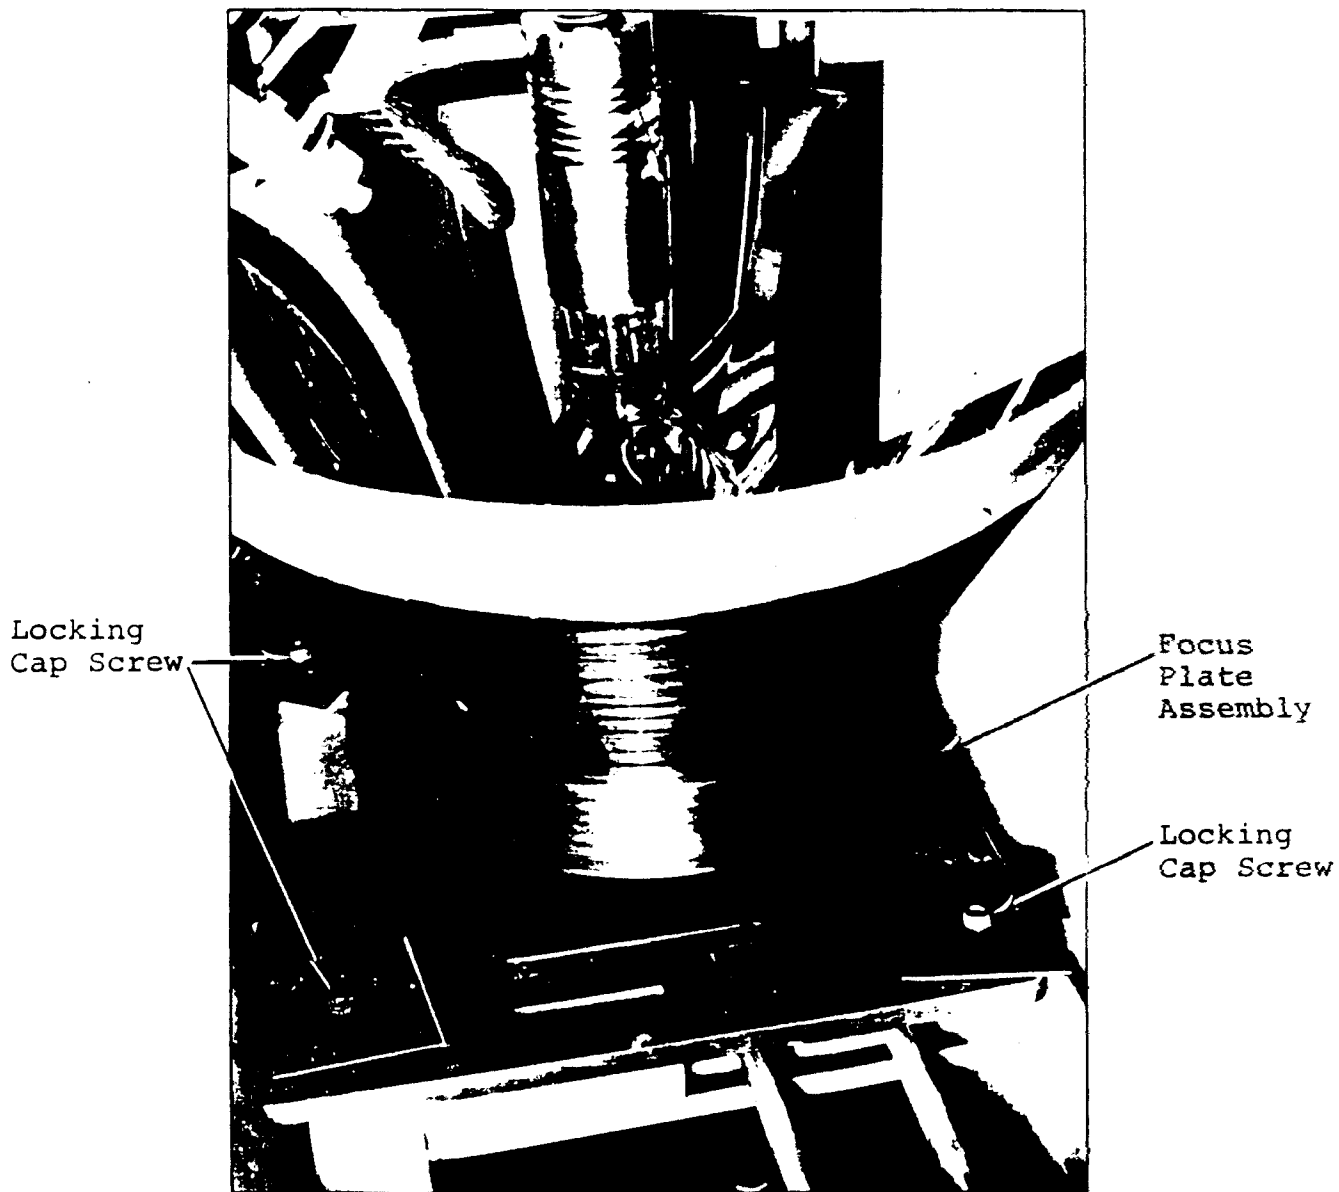

FIGURE 4-12
The focus plate assembly contains the reflector and focus mechanism. The entire assembly is adjustable in the horizontal plane so the reflector may be positioned to center the folded light beam in the optical axis of the projector (see Figure 4-12). The assembly is secured by three 5/32" hex head cap screws located on opposite sides of the reflector. Loosening the cap screws slightly frees the assembly for adjustment. (It may be necessary to remove the upper panel on the non-operating side of the 4500 Watt console to gain access to the rear screw securing the focus plate assembly.)
g. Lock the focus plate assembly in place by tightening the three hex head cap screws with a 5/32 inch hex wrench (see Figure 4-12).